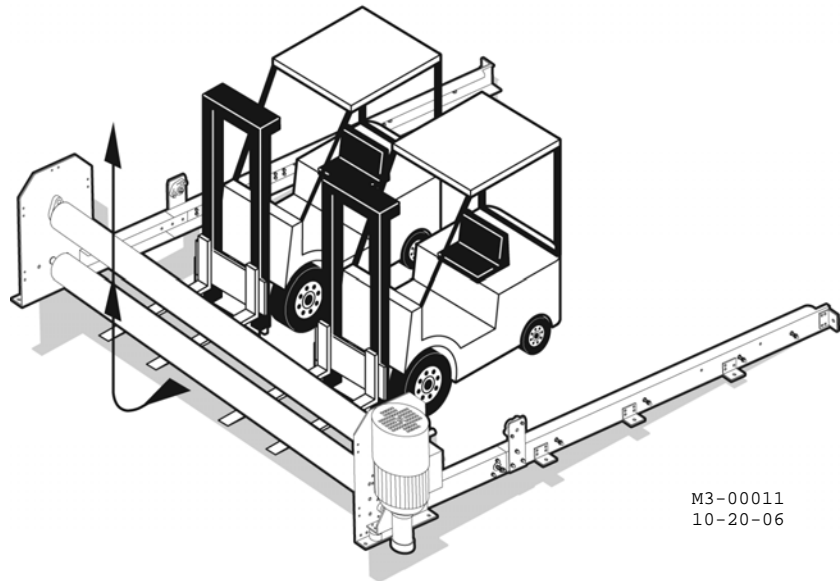

Figure 2-11: Tilting the Door
8. Lift the door with the forklift or suitable lifting device. The door will tilt to a vertical position as you lift the forks as in Figure 2-11.